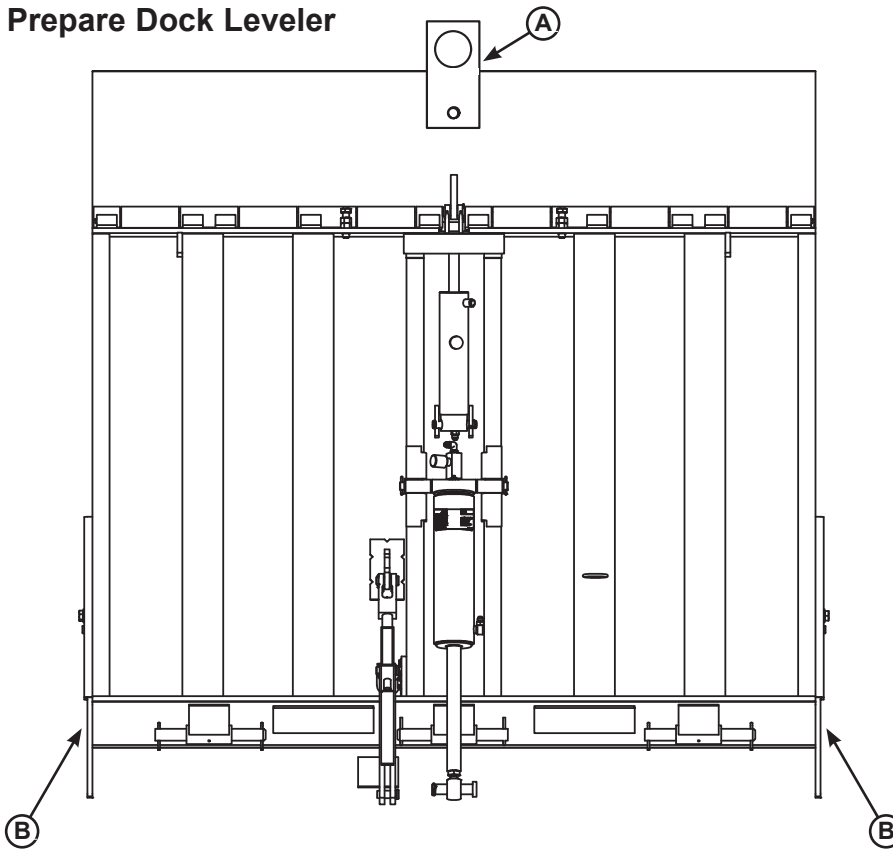

Figure 6
4. Ensure maintenance props (**B**) are in the lowered position and tightly secured (see **Figures 6 and 7**).